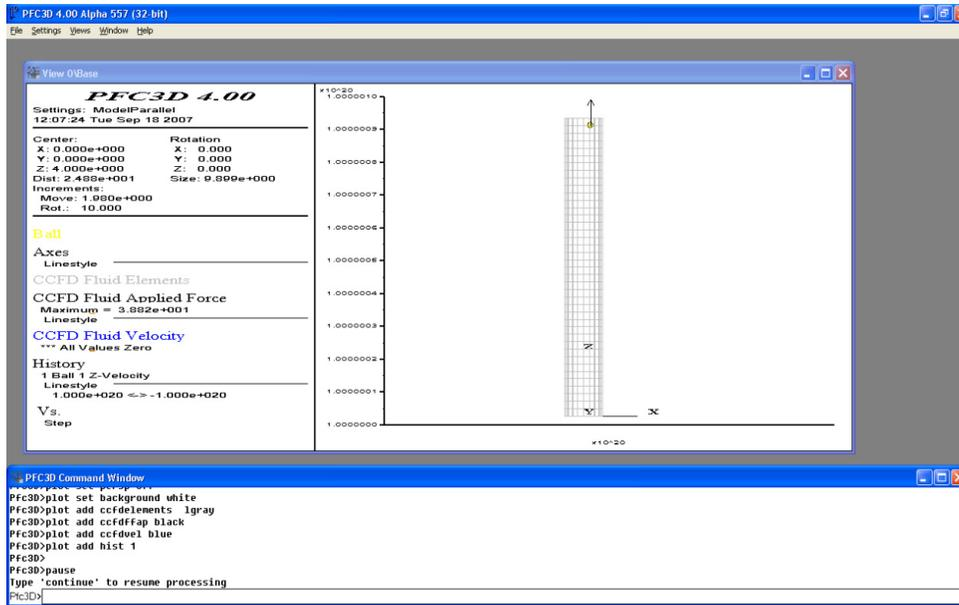

Figure 23: PFC3D screen launched by the proxy program
5. Clicking on **Start** launches the coupled PFC-CCFD computation. A PFC3D window opens on your screen, and you will notice several commands being executed until the Pause statement at the bottom of the PFC3D data file (Figure 20) is reached (Figure 23).